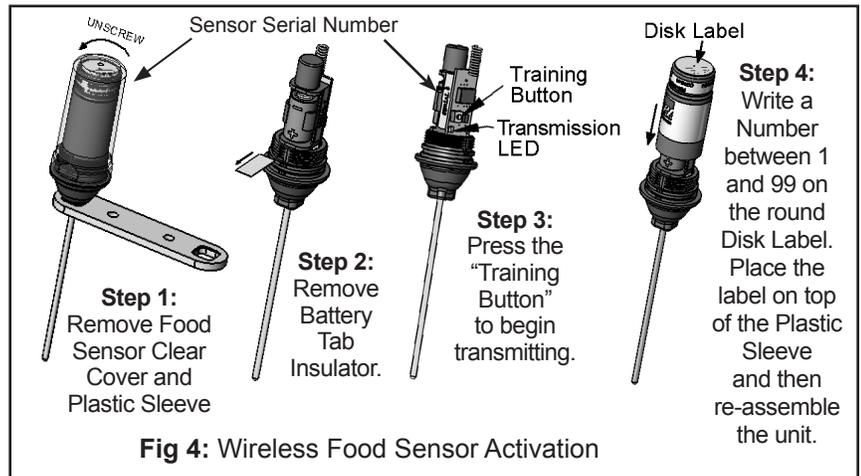

Fig 4: Wireless Food Sensor Activation
1. This is done by removing the cover and plastic sleeve and then removing the battery tab (Fig 4).